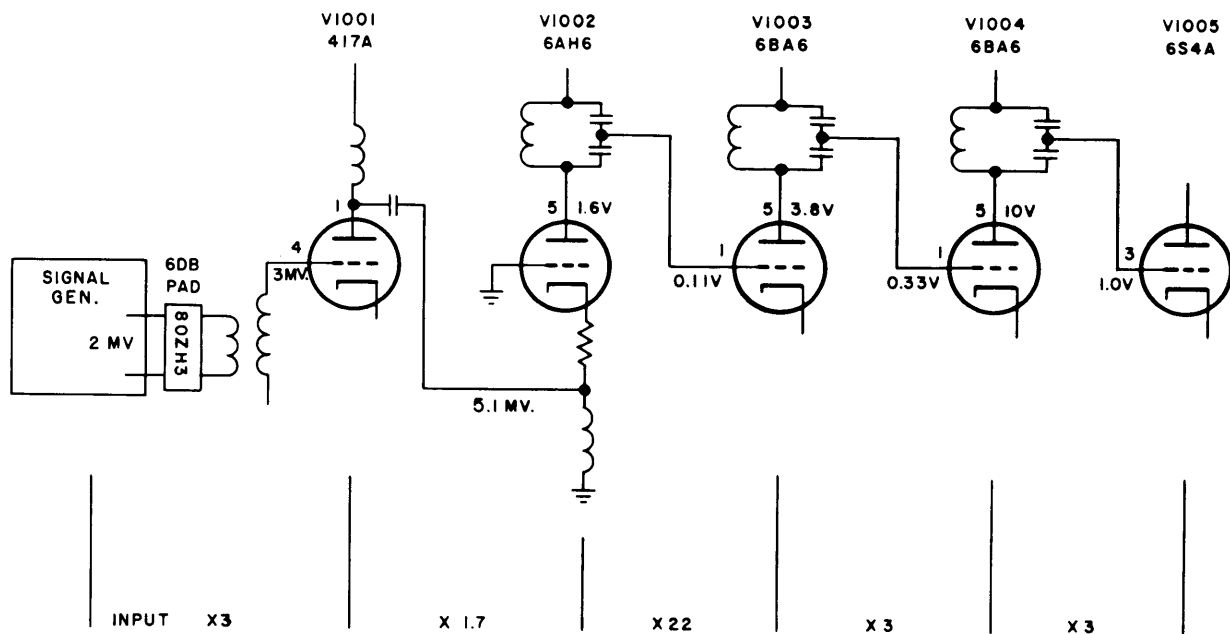

Figure 5-5. Gain of RF Stages
(4) Tune signal generator and HFR-1 to test frequencies of each RF band as listed in table 5-5. Simultaneously attenuate signal generator for VTVM reading of 1.0 V; input signal voltages should agree with those given in table 5-5.
(5) Use stage-by-stage gain chart figure 5-5 in conjunction with table 5-5 as an aid in locating troubles.